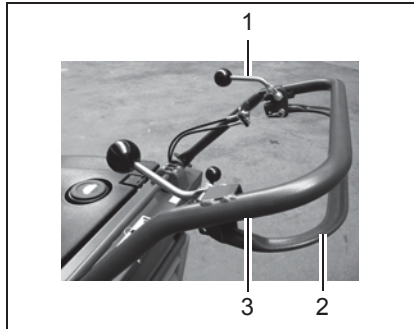

Fig. 11
1. Release the parking brake: Move the lever (Fig. 11/1) at the top right of the handlebar (Fig. 11/3) forwards.
2. Use your fingers to pull the drive bar (Fig. 11/2) against the handlebar (Fig. 11/3).
3. Steer the machine with the handlebar (Fig. 11/3) in the required direction.
1. Release the drive bar (Fig. 11/2). The machine decelerates and comes to a stop.
2. Actuate the parking brake: Move the lever (Fig. 11/1) at the top right of the handlebar (Fig. 11/3) back.